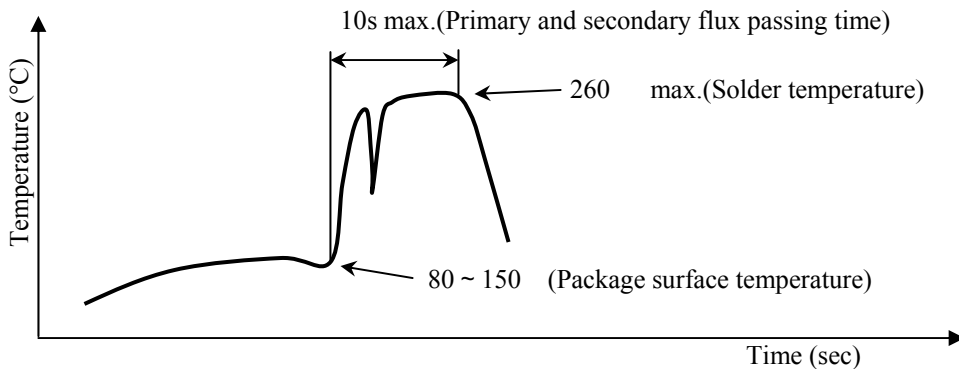

Fig.2 Wave soldering method temperature profile
- [Temperature] The temperature profile is shown in Fig. 2.